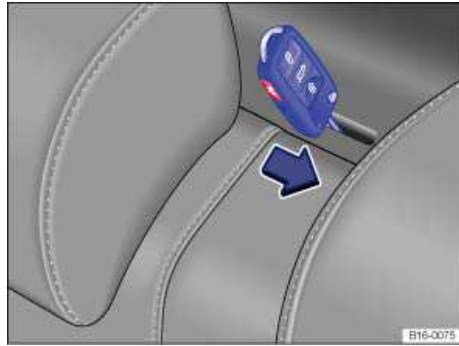

Fig. 152 Behind the rear seat backrest: Release of the rear seat back.
- To release the rear seat backrest, insert the vehicle key into the slot in the shelf behind the rear seat backrest ⇒ fig. 152 and push in the direction of the arrow.